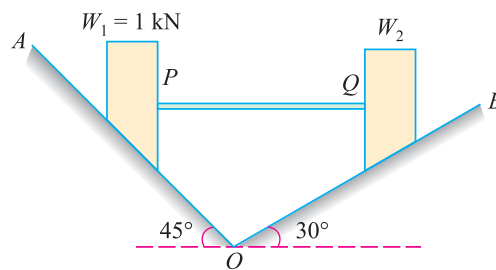

Fig. 8.20.
**Example 8.13.** Two loads,  $W_1$  (equal to 1 kN ) and  $W_2$  resting on two inclined rough planes  $OA$  and  $OB$  are connected by a horizontal link  $PQ$  as shown in Fig. 8.20.